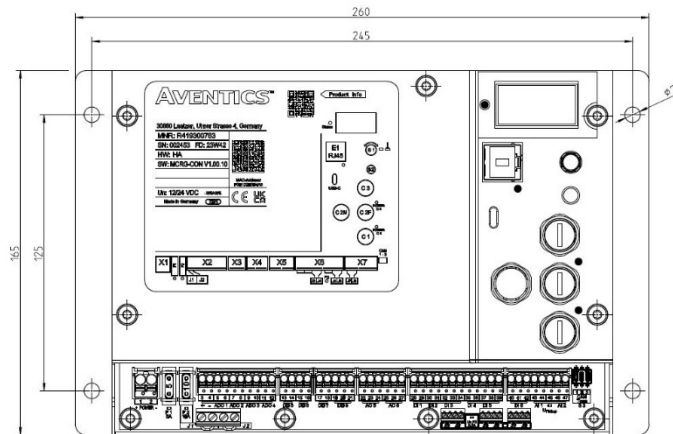

Figure 4: Installation position
- > Mount the Marex Propulsion Controller firmly, preferably in the position shown in Figure 4.